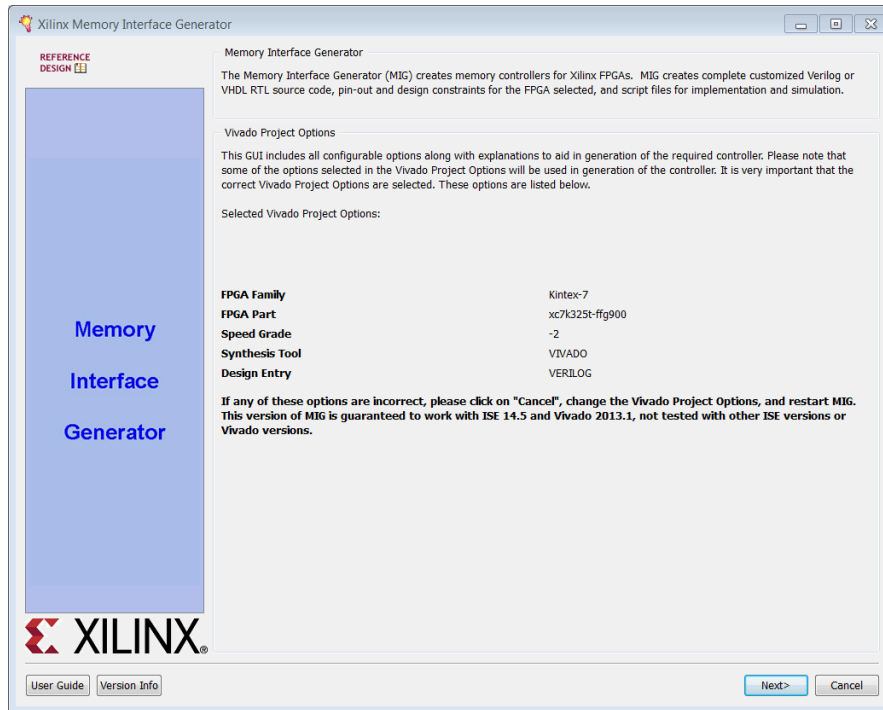

Figure 90: Memory Interface Generator (MIG)
- a. Double-click the **MIG 7 Series IP**. The Memory Interface Generator wizard opens. (Figure 90)